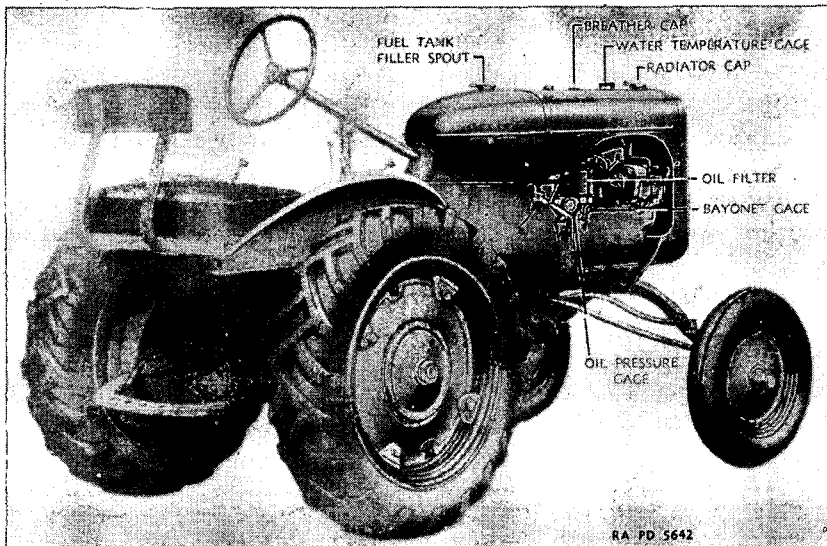

FIGURE 5.—Finding diagram.
j. After the engine is started, close the radiator shutter with the control located on the right side of the radiator shell, and keep it closed until the engine reaches normal operating temperature as indicated on the temperature gauge mounted on the engine hood immediately behind the radiator cap (fig. 5). Then open the shutter sufficiently to keep the temperature normal.
b. The crankcase, or engine oil sump, is filled through the breather cap provided on the top of the engine hood (fig. 5). A bayonet gage (fig. 5) located near the oil filter on the right side of the engine is provided to indicate the quantity of oil in the crankcase; the oil level in the oil sump must be maintained to the "Full" mark on this gage. A plug, located in the bottom of the crankcase, is removed when necessary to drain the sump before refilling with fresh oil.
14. Oil filter.—An oil filter is provided in the engine oil pressure circuit for the purpose of removing abrasive particles from the engine oil (fig. 5). The filter element is of the removable type and should be changed as indicated on the lubrication guide.
15. Breather cap.—The breather cap (figs. 5 and 8) provides for ventilation of the engine sump. Should the breather become clogged with dirt, pressure will be created in the crankcase and cause oil leaks
b. The instruments should be referred to frequently to see if the engine is functioning properly. The instruments provided include a water temperature gage located on the hood near the radiator cap and an oil pressure gage mounted near the oil filter (fig. 5).